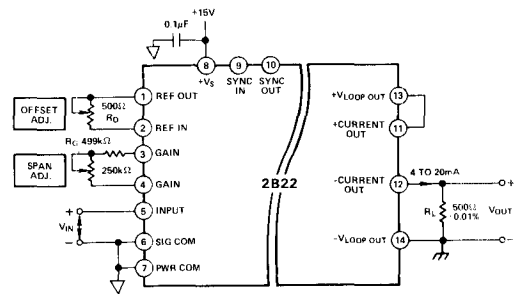

Figure 3. Optional Span and Offset Adjustment
Model 2B22 is factory calibrated for a 0 to +10V input range ($G = 1.6\text{mA/V}$). As shipped, the 2B22 meets its listed specifications without use of any external trim potentiometers. Additional trim adjustment capability, to reduce span and offset errors to $\pm 0.05\%$ max, is easily provided as shown in Figure 3. The span and offset trim pots are adjusted while monitoring the voltage drop across a precision (or known) load resistor. The following trim procedure is recommended:
1. Connect model 2B22 as shown in Figure 3.